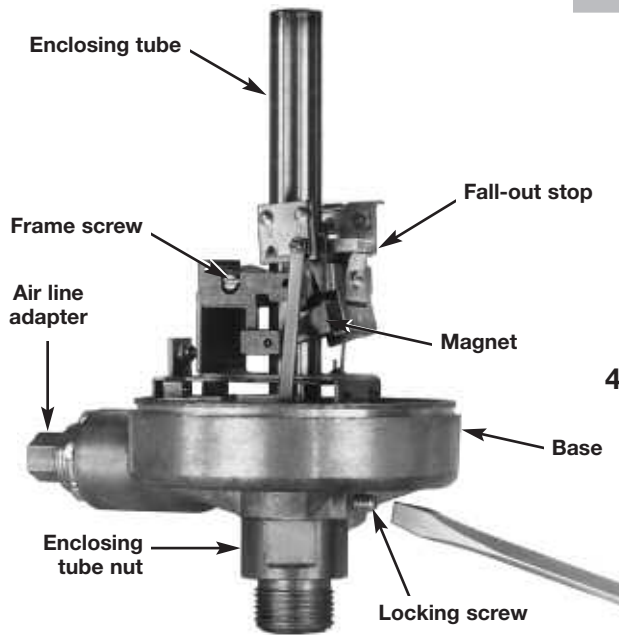

Figure 5
1. Loosen both the locking screw above the enclosing tube nut and the frame screw. Refer to Figure 5.
2. Loosen both the locking screw above the enclosing tube nut, and the frame screw approximately 3 to 4 turns. Refer to Figure 5.
- Hold the magnet against the fall out stop. Refer to Figure 5 on page 5.